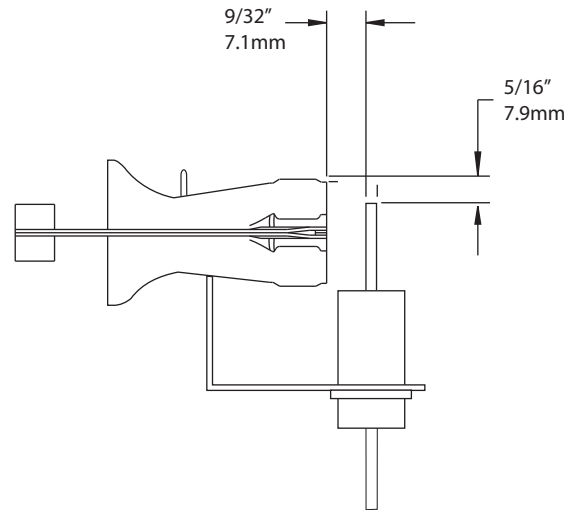

Fig. 43 - Igniter Position - Side View
6. For Silicon Nitride igniters, see Fig. 43 and 44.